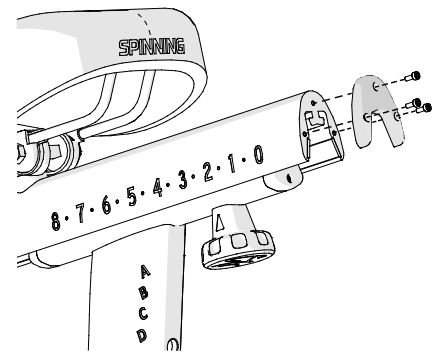

Figure 8
3. Attach the seat slider end cap ⑧ using three bolts ③ (Figure 8) and fully tighten with the hex key ⑦.